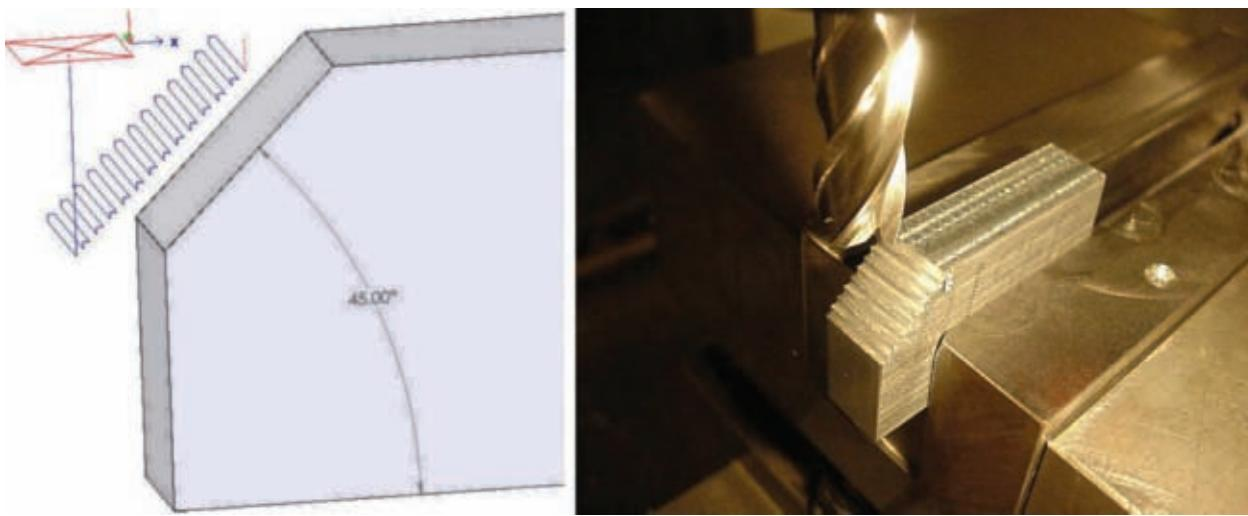

Figure 8-21 The cutter path for roughing this angle is shown on the left and the actual cuts are shown on the right.
32. Choose cutter diameters for the program. (see Figs. 8-21)
The end mill used for roughing in this example is a sharp cornered, flat bottom, 1/2" diameter end mill. The roughing cuts are programmed to stay away from the finished surface about .010". The step over moves are .05" in the program so the numbers are easy to follow. The roughing cutter path and cuts are shown in Figure 8-21.